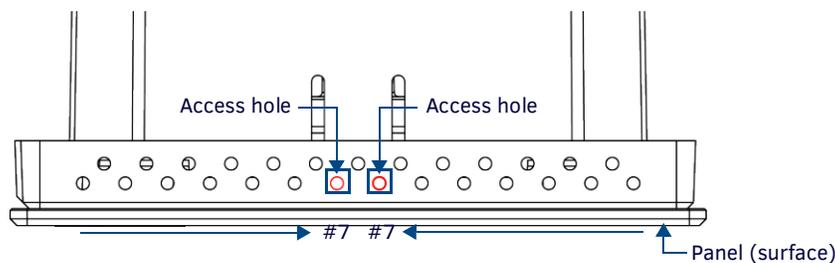

FIG. 60 Top View of the MXD-430 showing access holes in molding
2. On the top of the MXD-430, locate the **seventh** ventilation holes from each edge, on the row closest to the glass (FIG. 60):.
3. With a stout, strong point (a push pin or straightened paper-clip, for example), carefully press straight into the access holes in the center of the molding (FIG. 60) until the snap is disconnected.